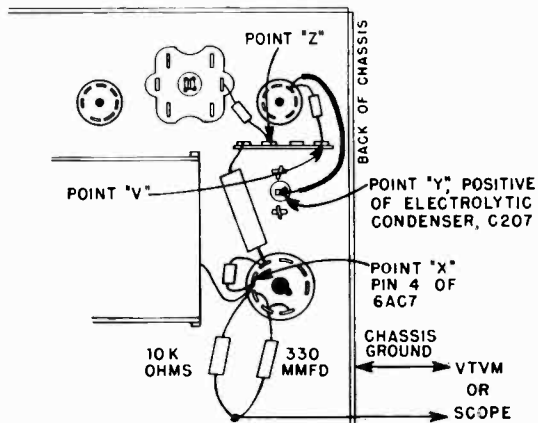

Figure 29. Alignment Connection Points.
- Connect RC filter of 10,000 ohm resistor and 330 mmfd. condenser in series from point "X" to chassis. See figure 29. Leave connected for all steps in this alignment.
2. Connect oscilloscope between point "X" and chassis ground through a decoupling filter (see figure 29). Keep leads away from receiver.
very minimum. Marker pips should be kept just barely visible. Setting sweep generator output for VTVM reading from .5 to 1 volt DC (measured from decoupling network at point "X" and chassis, figure 29) will avoid distortion of response curve.
2. Connect oscilloscope between point "Z" and chassis ground (see figure 29). Keep leads away from receiver.
4. Connect oscilloscope between point "X" and chassis ground through a decoupling filter (see figure 29). Keep leads away from receiver.
**Important:** To avoid distortion of the response curve, keep the sweep generator and marker generator outputs at a very minimum. Marker pips should be kept just barely visible. Setting sweep generator output for VTVM reading from .5 to 1 volt DC (measured from decoupling network at point "X" and chassis, figure 29) will avoid distortion of response curve.